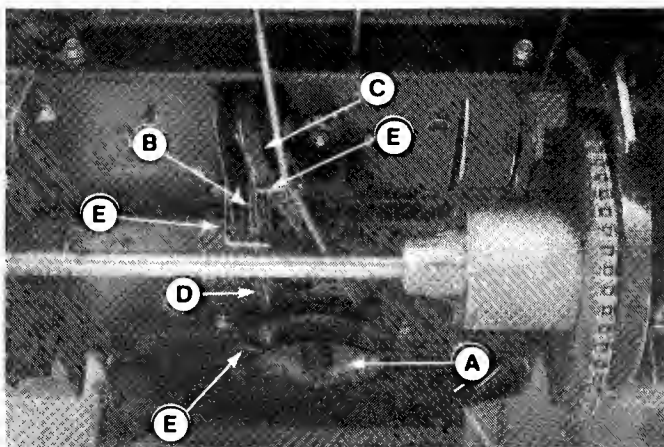
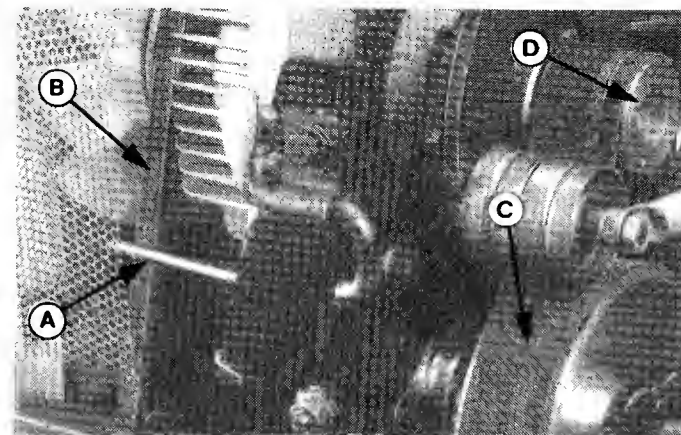

Figure 23. "V" Belt
Figure 25. Intermediate Belt
4. Slip the belt off the transmission pulley, then remove from idler pulley (C, figure 23), fixed pulley (B) and engine pulley (A). Loosen belt stops (E) as necessary.
9. Release parking brake to check belt stop adjustment. There should be 1/16 to 1/8 inch clearance between belt and belt stops. Three belt stops (E) are shown in figure 23. Also check belt stop (A, figure 25) at transmission pulley. To adjust, loosen mounting hardware, position belt stop, and then tighten hardware.
The intermediate belt (C, figure 25) is designed for the life of the unit. If replacement is necessary, see your dealer.